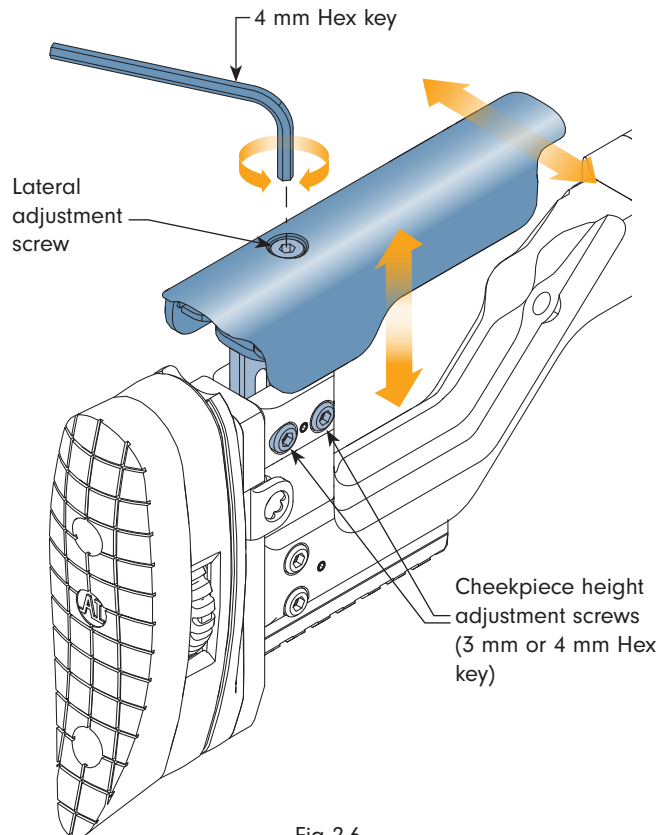

Fig 2-6
- Use a 3 mm or 4 mm hex key to loosen the two adjustment screws (see Fig 2-6).